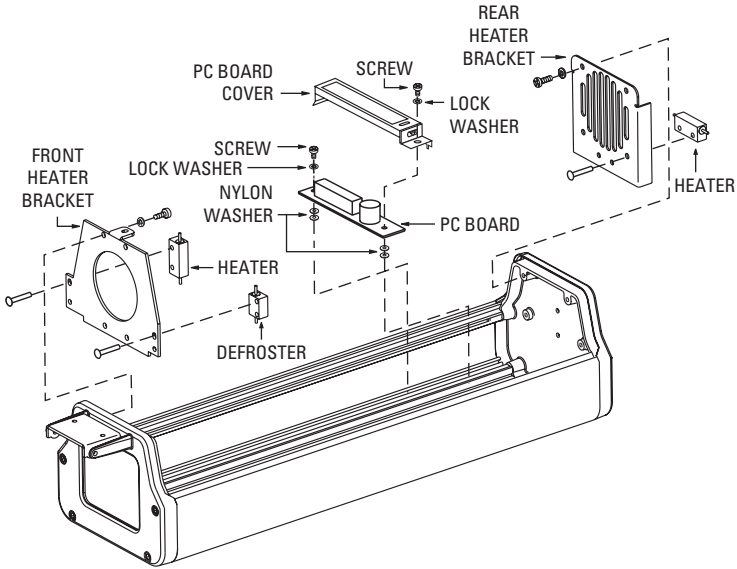

Figure 1. Heater and Defroster Kit Installation
6. Attach the heater bracket (with heater and defroster attached) to the inside face of the window using the screws provided (refer to Figure 1).
- b. Place the rear heater bracket (with attached heater) at the rear of the enclosure (refer to Figure 1). Be sure the heater is at the bottom of the enclosure and faces the rear of the enclosure.
- b. Using the two 6-32 x 3/8-inch self tapping screws, two lock washers, and four nylon washers provided, attach the PC board to the slots running along the bottom of the enclosure (refer to Figure 1).